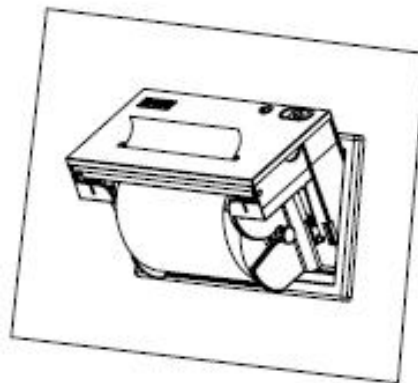

Figure 2-5
(4) Switch on, press feed button and insert paper from feeding paper slot, press feed button again to stop feeding after paper comes out. As figure 2-5: